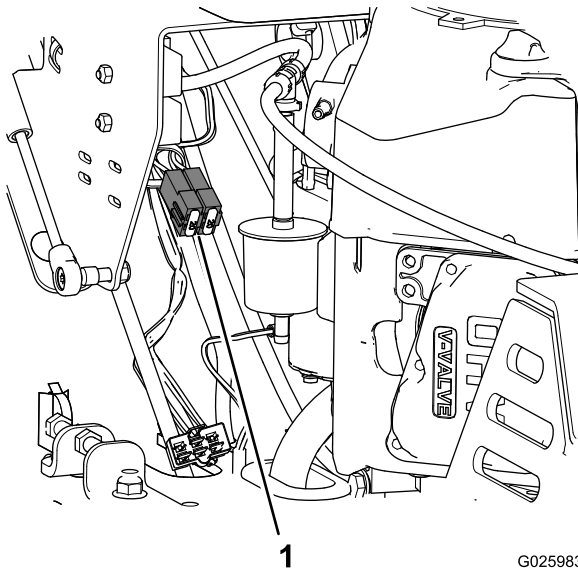

Figure 51
3. Pull the fuse from the socket of the fuse block (Figure 51).
4. Install a fuse of the same type and amperes into the socket of the fuse block (Figure 51).